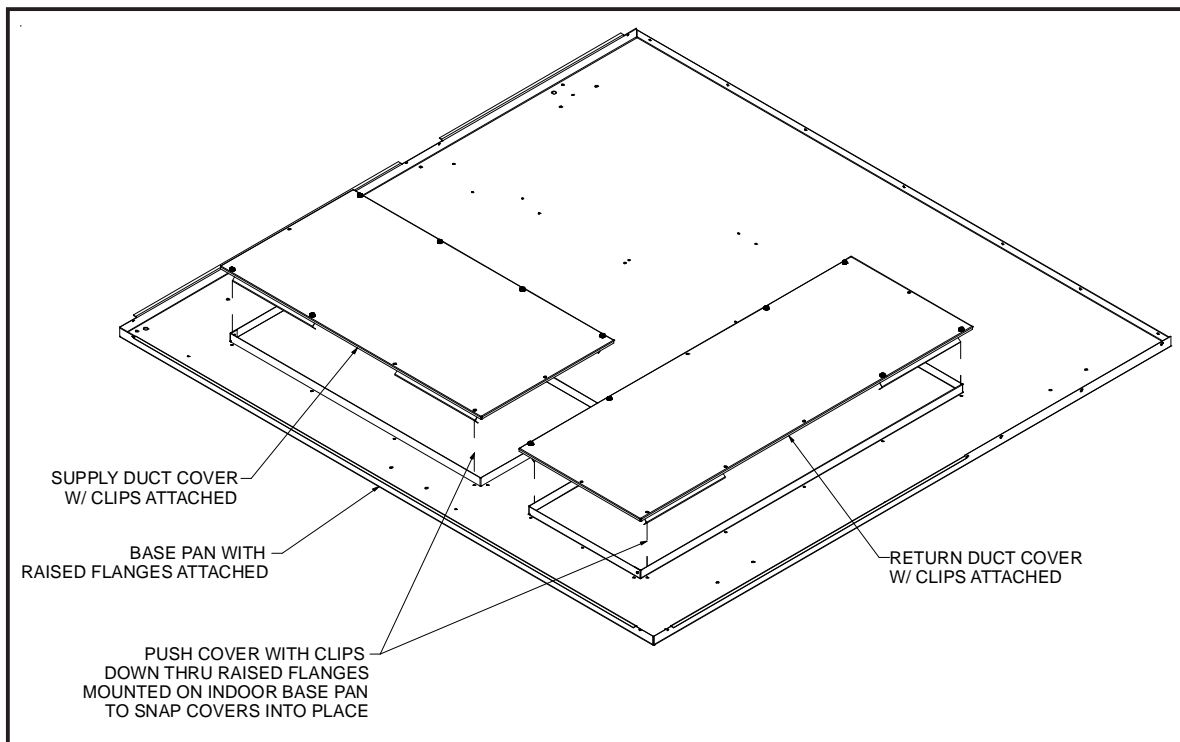

Figure 3
5. Place the assembled panels over the supply and return duct openings in the base pan and push down to snap panels into places, as shown in Figure 3.